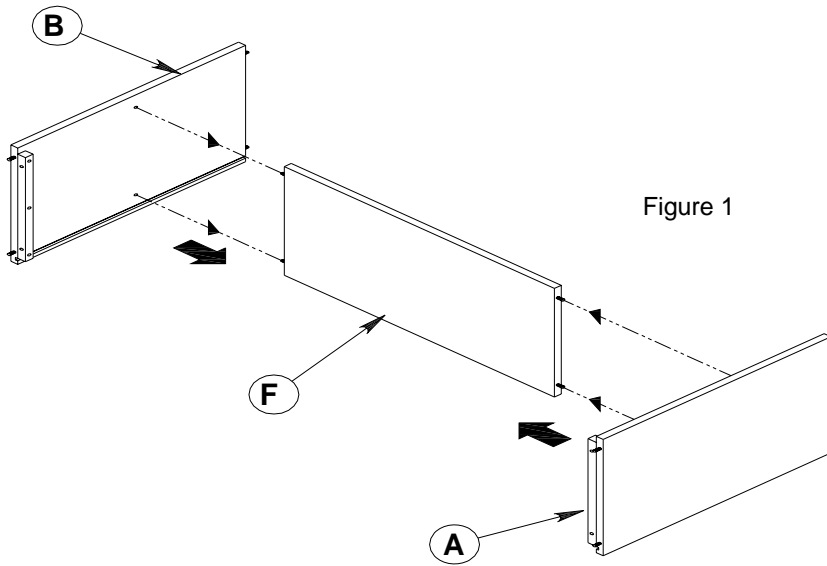

Figure 1
1. Align and connect the wooden dowels on each end of the Shelf (F) to the pre-drilled holes on Left/Right Panels (A&B) (Figure 1).